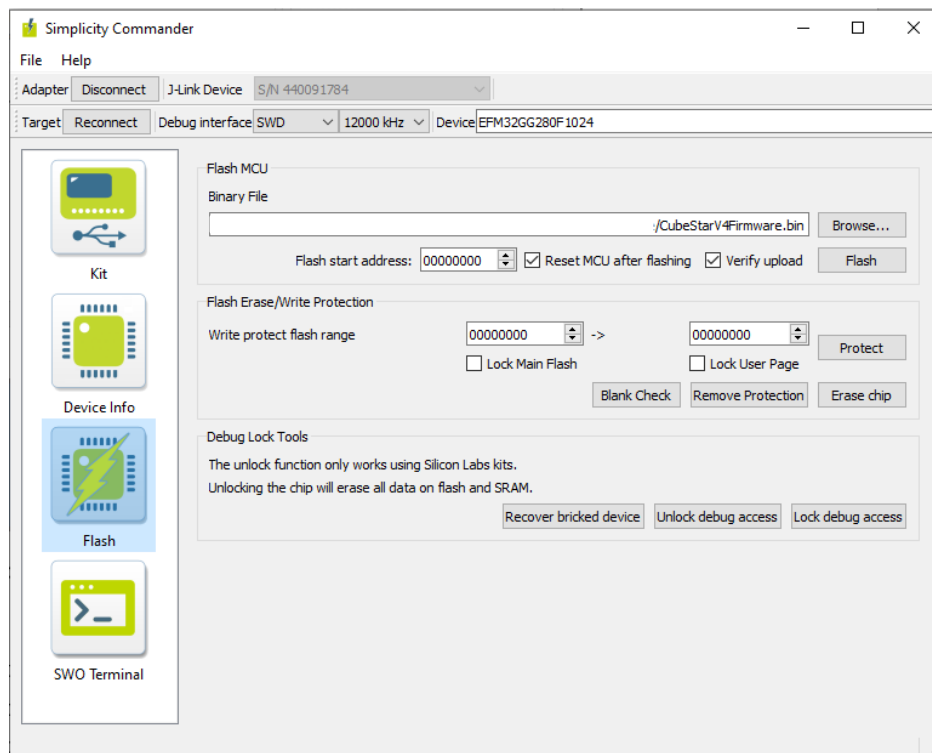

Figure 26 – Flashing the Binary File
8. To flash the binary file, navigate to the *Flash* tab, as shown in Figure 26.
9. Set all options as shown in Figure 26.